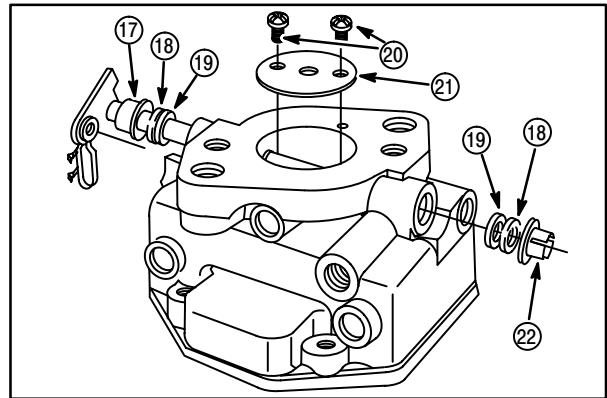

Fig. 102
10. Mark throttle plate (21), **Fig. 102**, before removing to ensure re-installation in the original position. Top and bottom edges are beveled. Remove screws (20) and throttle plate.
11. Remove retainer (22).
12. Remove throttle shaft with foam seals (18) and spacer (17).
13. Remove seals (19).